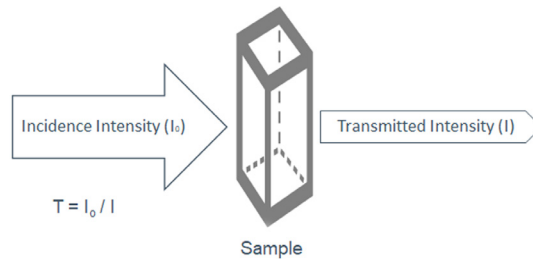

Figure 8. Transmittance Equation and Diagram
Transmittance (T) is the calculation of the difference of intensity (I_0) energy from the incident beam to the resulting beam (I) (Figure 8). Transmittance is usually expressed in units of percent.